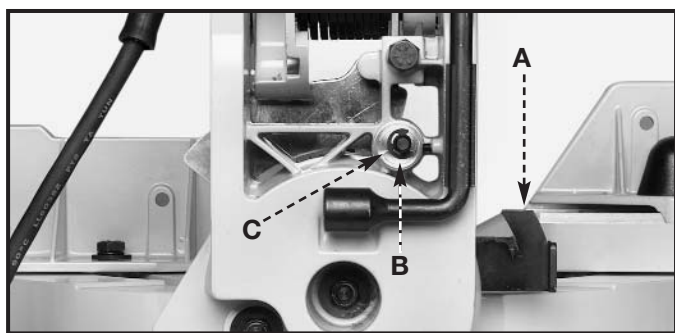

Fig. 24
The bevel setting feature utilizes a sliding plate (A) Fig. 24, pin (B), and bushing (C) design that is used to select the bevel angle. The position of the pin (B) and the sliding plate (A) determine the bevel angle.
The bevel adjustment utilizes a sliding plate (A) Fig. 24, pin (B), and bushing (C) design feature that can be adjusted to fine-adjust the bevel angle. The position of the pin within the bushing is adjustable and, when set, determines the bevel angle. To adjust, loosen the pin locking screws, move to desired location, and tighten securely.